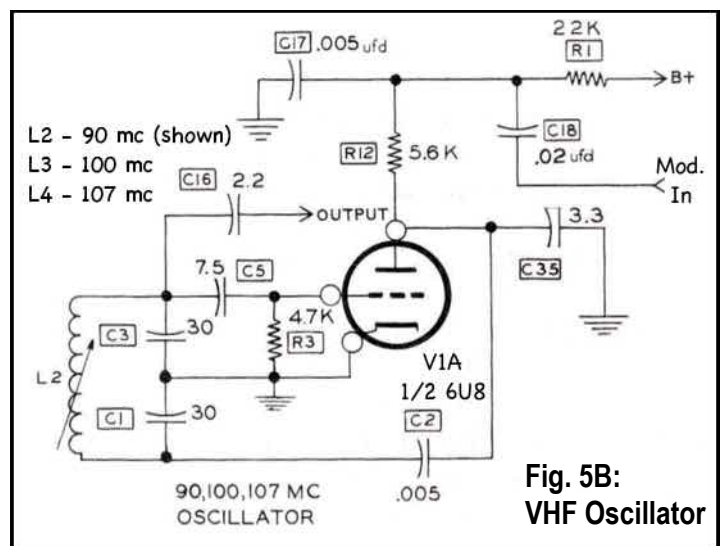

Fig. 5B: VHF Oscillator
**Very High Frequency (VHF) Oscillator (V1A):** The VHF oscillator uses the same tube section as the sweep oscillator, V1A. When one of the three VHF frequencies (90, 100, or 107 mc.) are selected, V1A operates as a Colpitts oscillator with either L2, L3 or L4 switched in depending on the desired frequency (see Fig. 5B).